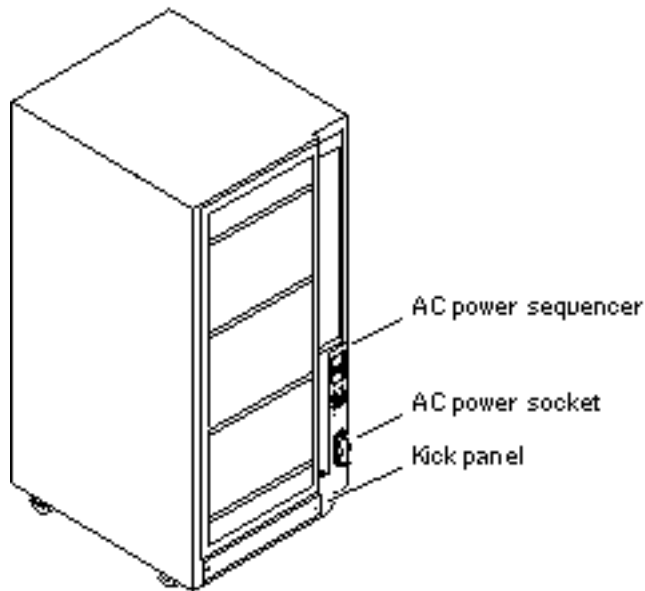

Figure 2-2 AC Power Sequencer Power Switch
5. **Ensure that the AC power sequencer switch (Figure 2-2) is set to Off.**
7. **If you are installing or rearranging interface cables, remove the kick panel (Figure 2-2) by loosening the two screws on the kick panel.**
1. **If you removed the panel, secure the kick panel to the cabinet (Figure 2-2).**
1. Open the AC socket cover (Figure 2-2) on the AC power sequencer and connect the AC power cord.